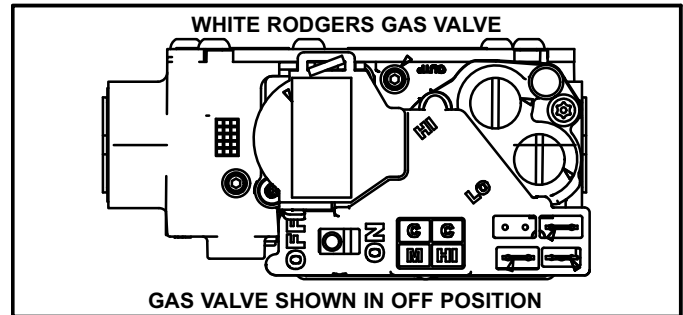

FIGURE 2
Operating the Gas Valve (Figures 2 and 3)
- 6 - Move switch on gas valve to **OFF**. Do not force. See figure 2 or 3.
- 8 - Move switch on gas valve to **ON**. Do not force. See figure 2 or 3.